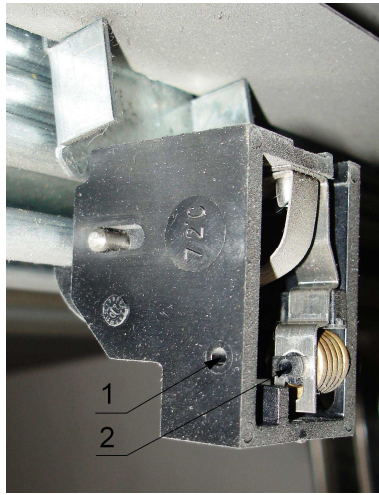

Figure 9. Electromagnetic release device cassette.
- in the releasing cassette, push the wire, respectively, through openings 1 and 2 marked in figure 9.